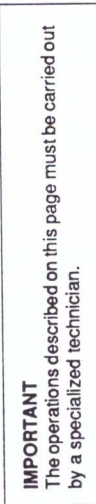

FIG. 19
- 3) Replace the drain screw and pour fresh oil in through the filling hole on the top (fig. 19A) until it reaches the level indicated on the sight glass (fig. 19 B).